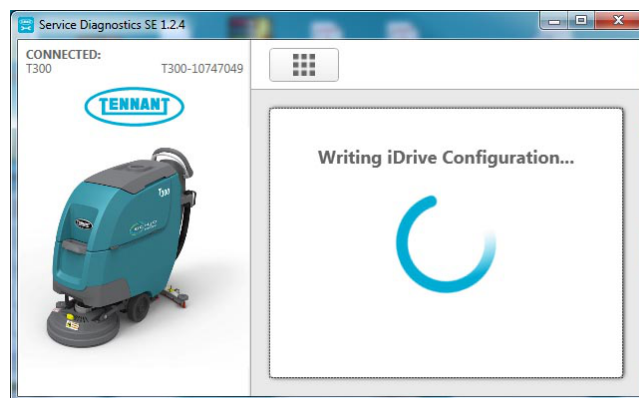

Fig. 8
9. Programming may take several seconds to complete (Figure 8). Follow instructions on screen if prompted to cycle key to complete process.